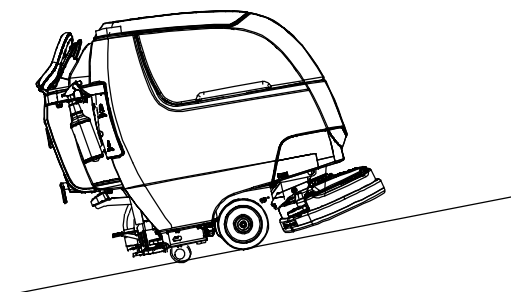

FIG. 131
2. Use a ramp that can support the machine weight and operator and carefully load machine (Figure 131).